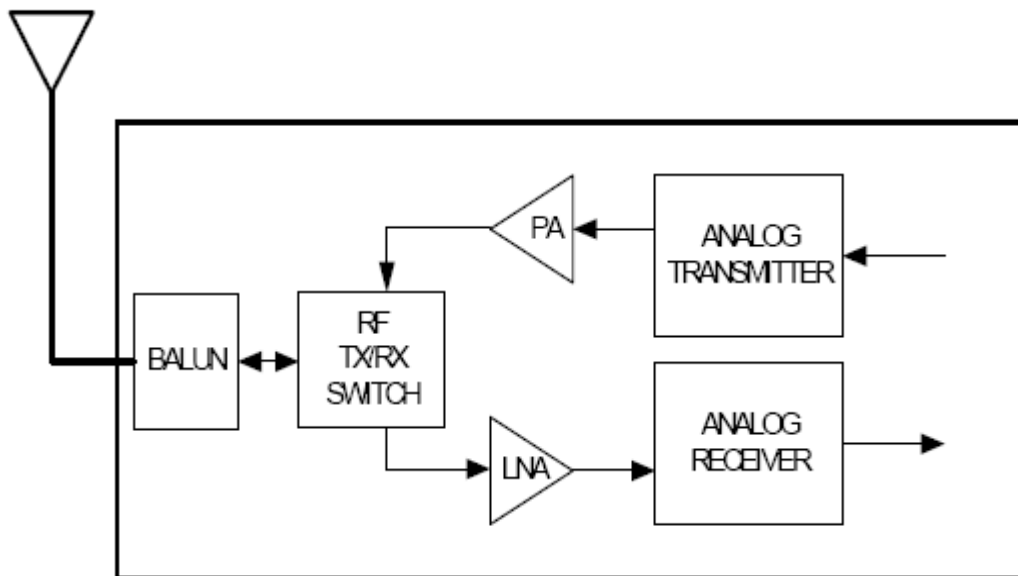

Figure 2. MC13224V RF Radio Interface
The RF radio interface provides for low cost and the high density as shown in Figure 2. The transceiver is a zero IF radio without intermediate frequency (IF) stage. An onboard balun along with a TX/RX switch allows direct connection to a single-ended 50-Ω antenna. The integrated PA provides programmable output power typically from -30 dBm to +4 dBm, and the RX LNA provides -96 dBm sensitivity. In addition, separate complementary PA outputs allow use of an external PA and/or an external LNA for extended range applications. The device also has onboard bypass capacitors and crystal load capacitors for the smallest footprint in the industry. All components are integrated into the package except the crystal and antenna.